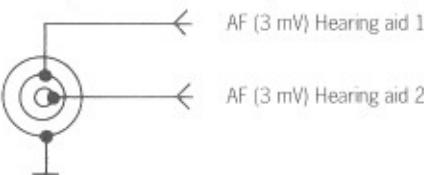

Fig. 3: Wiring of the AF Output Socket (switch setting: "3 mV")
1. Connect the hearing aid to the EK 1013-6 (see socket wiring diagram, Fig. 3).